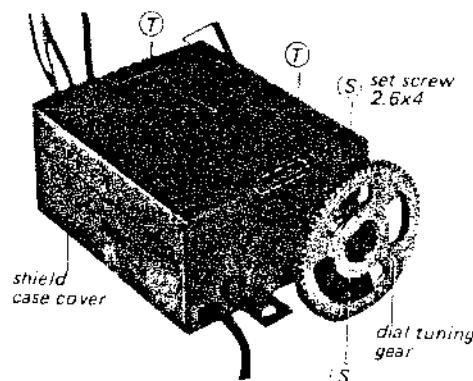

Fig. 2-17
2. Remove the dial-tuning gear by loosening the two set screws (2.6×4) marked (S) in Fig. 2-17.
3. Unsolder the two portions of the cover marked (T) in Fig. 2-17 and remove the shield case cover in the direction shown.